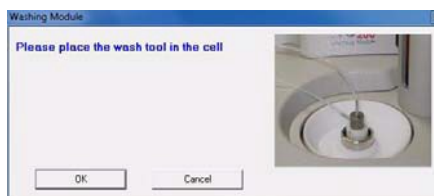

Figure 4. Tubing connections on the washing module.
- 6 Inspect the tubing on the washing module to get familiar with the different tubing connections (Figure 4):